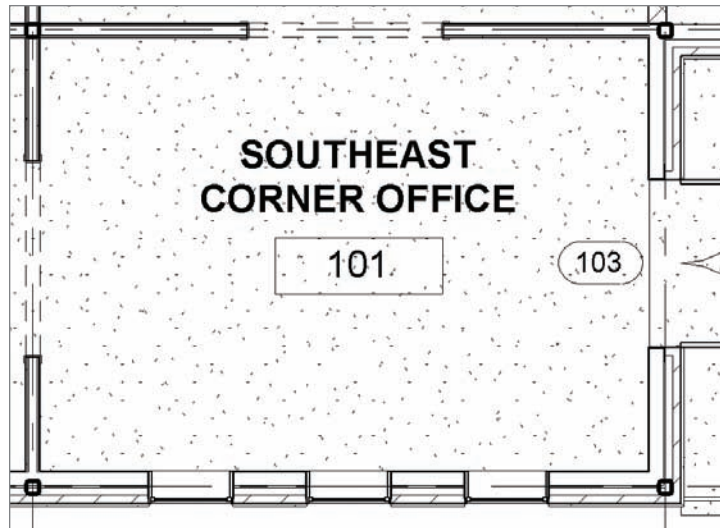

FIGURE 15.3 Changing the room name and number to SOUTHEAST CORNER OFFICE, 101
5. Change the number to **101** (see Figure 15.3).